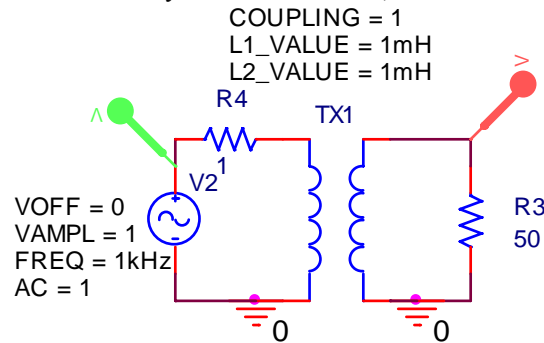

Figure C-3
- Set up the circuit pictured in figure C-3 in *Capture*.